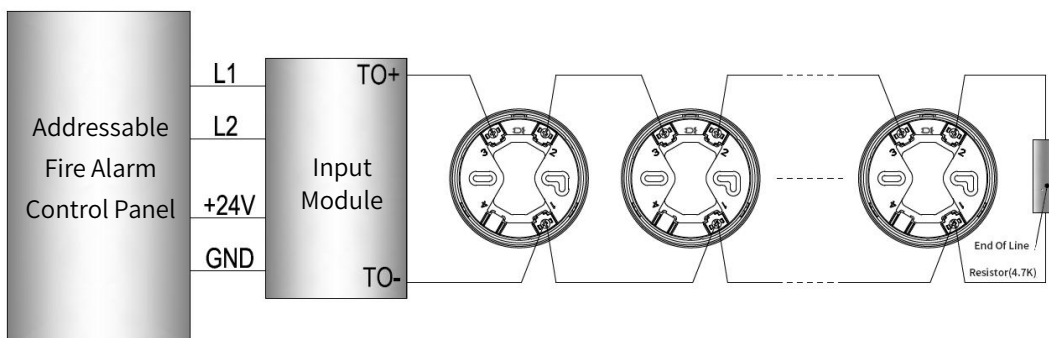

Fig.4
b. The detector connects to the Addressable Fire Alarm Control Panel through the input module, as shown in Fig.4: